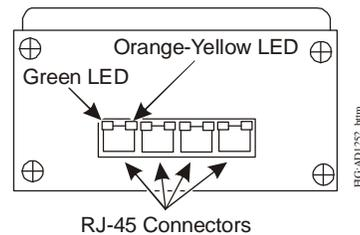

Figure 13: DMPR-RA002 Electronic Controller, Bottom View
1. Connect a shielded CAT5e cable between the RJ45 connector on each probe (Figure 7) to an RJ45 connector on the electronic controller (Figure 13). Make sure that the metal shielded cable end is connected to the controller.